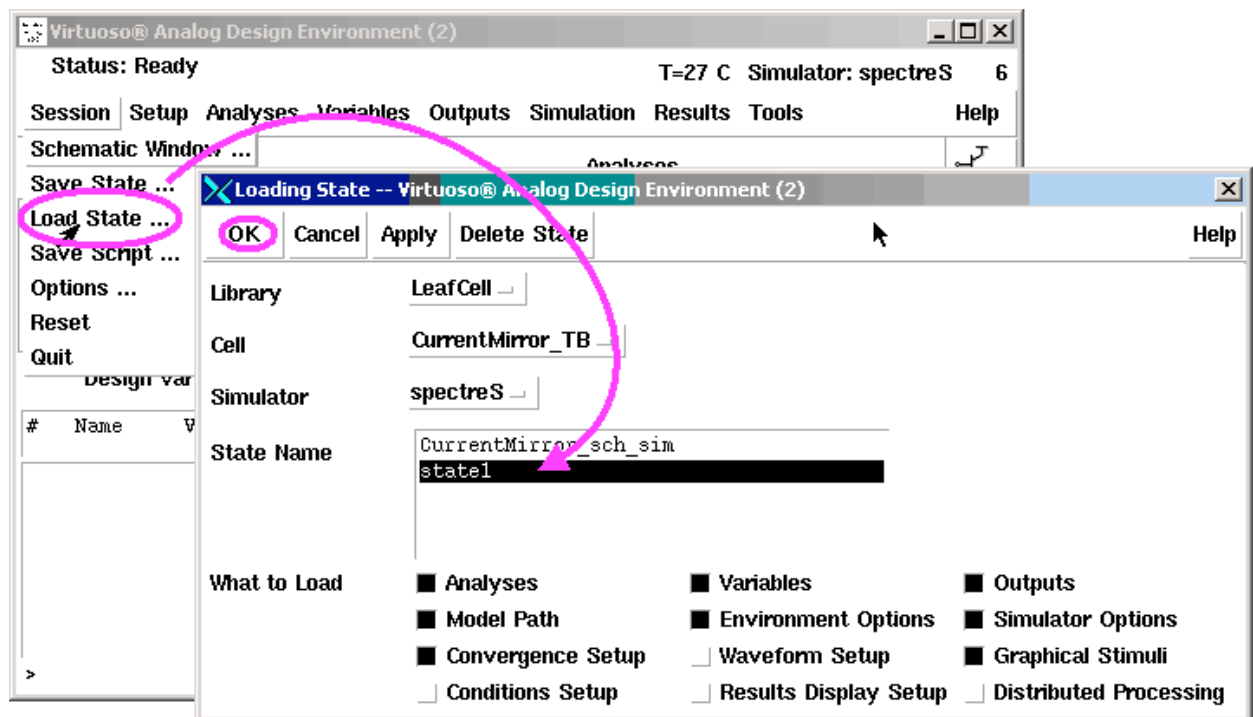
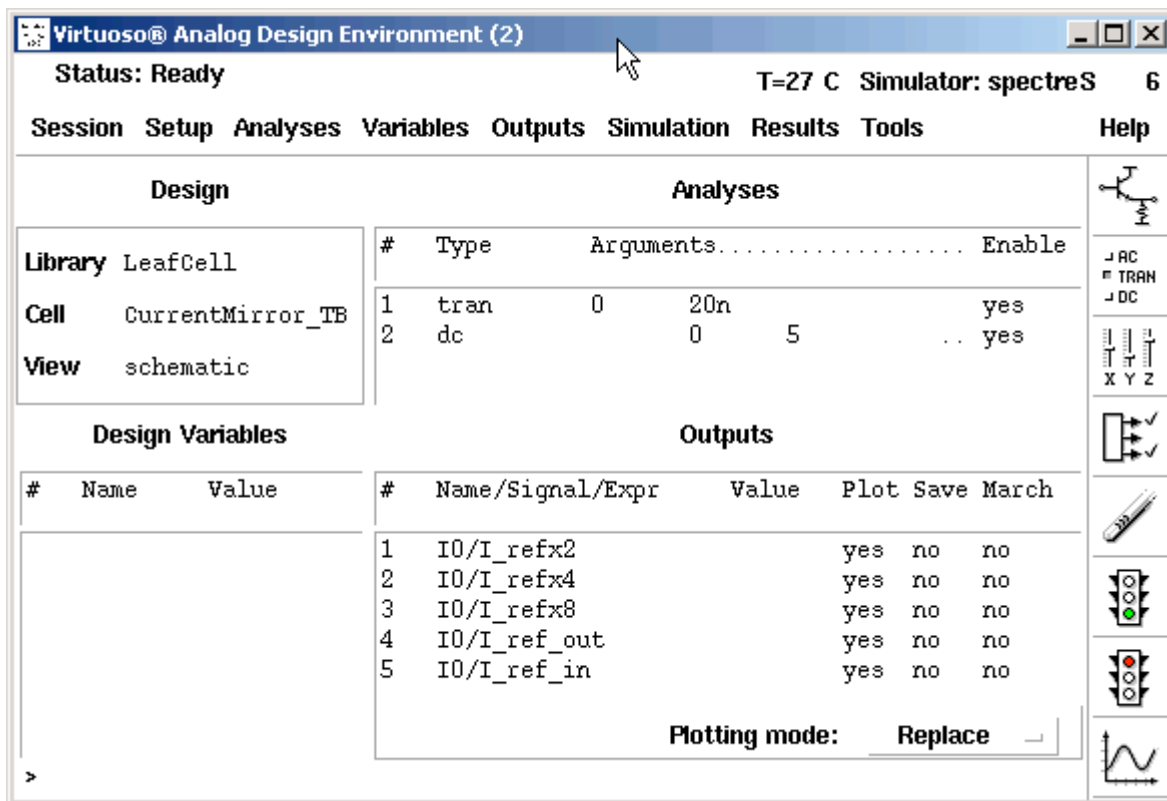

Figure 103: extracted environment setting.
Figure 104: extracted environment setting.
3. Go to *Session...Load State...*, select the *state1* which you save earlier, and then click *OK* (Figure 103). The Affirma will look as in Figure 104.
6. Click OK, the finished one should look like Figure 104 again.